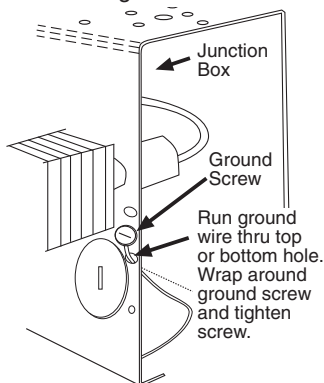

Fig. 3
9. Following the wiring diagram secured to the heater, make electrical connections. Ground the heater using the ground screw provided. See Fig. 3.